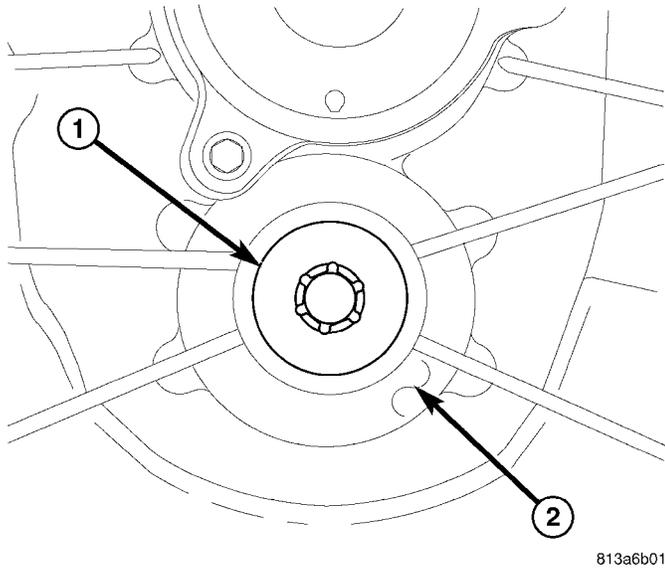

Fig. 114 COUNTERSHAFT BOLT
(17) Install countershaft bolt (1) (Fig. 114) into the front housing (2) and tighten to 100 N·m (74 ft. lbs.).